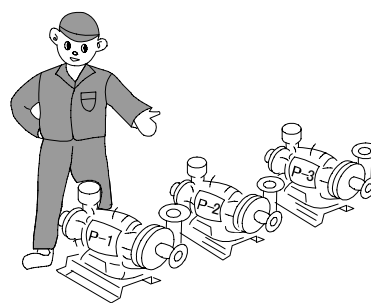

Fig.2-1 Confirmation Upon Unpacking
- (1) When unpacking a large number of pumps at the site of construction, confirm Serial No. of each pump to prevent confusion of the pumps. (Refer to Fig.2-1.)
- (2) Mark spare parts and accessories with the pump Serial No. clearly.
- (3) Pump test reports will be furnished later. Confirm the pump Serial No. marked on the reports and keep them in separate custody.
- (4) Do not remove seals from pump inlet and outlet before pump installation. If foreign substances get into the pump, they may cause trouble.
- (5) Even if the pump is to be stored for a long time in a warehouse, check the pump for the above items upon receipt and give antirusting treatment before storage.
- (6) In case any damage is found with the pump, immediately contact the transportation company or NIKKISO.